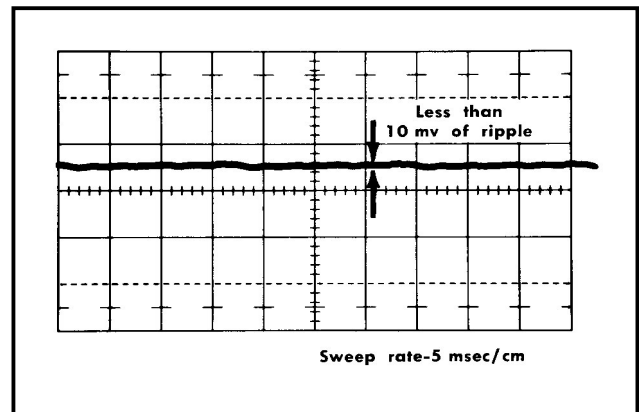

Fig. 5-6. Typical test oscilloscope display of power supply ripple at -19-volt or +19-volt test point (with trigger circuit not free running).
e. Check the display for less than 1 cm (10 mv) of ripple on the Type 1S1 -19-volt regulated supply (see Fig. 5-6).